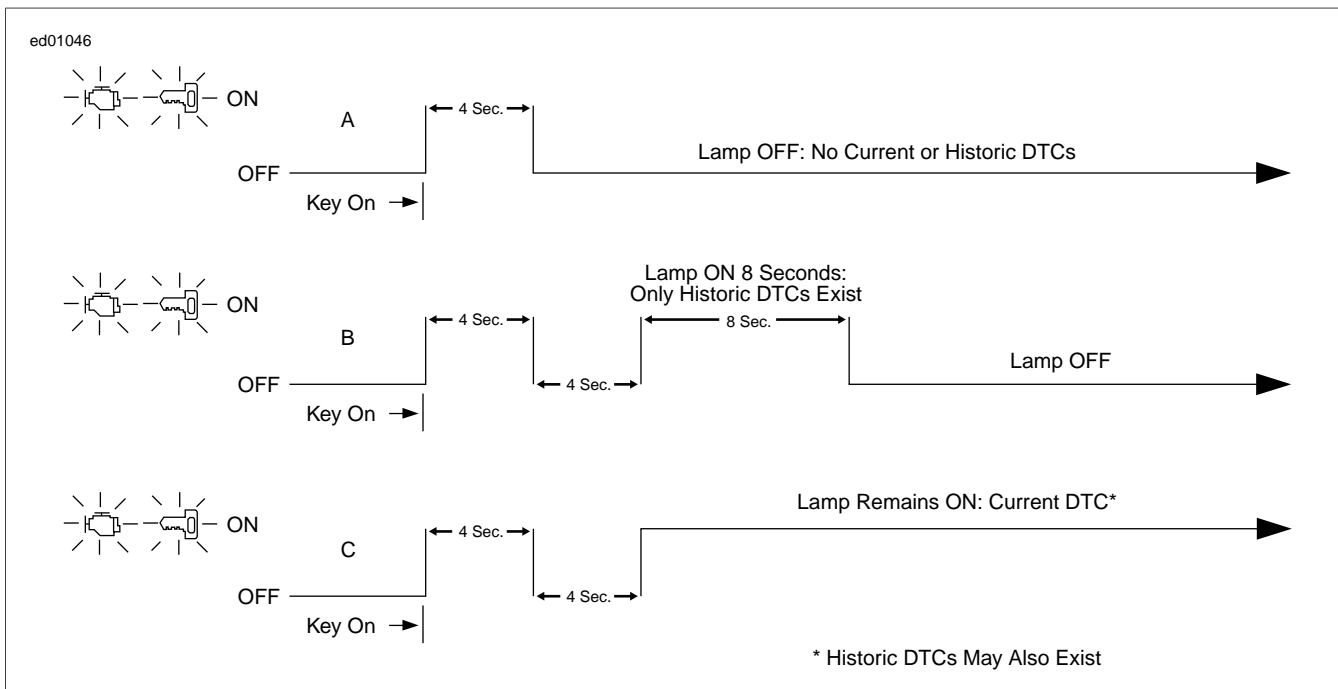

Figure 2-3. Check Engine and Security Lamp Operation
1. See Figure 2-3. After the check engine lamp turns off following the first four-second illumination period, one of three events may occur:
1. See Figure 2-3. After the security lamp turns off following the first four-second illumination period, one of three events may occur: